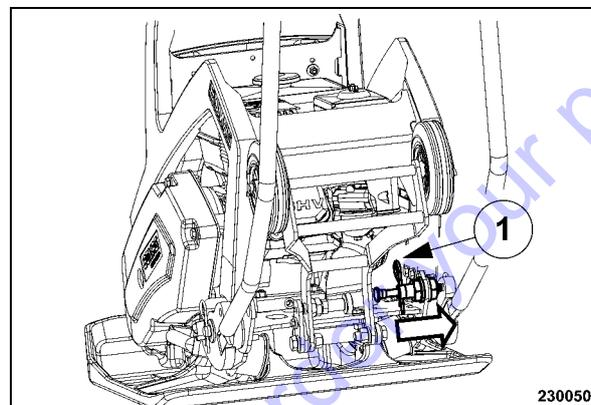

Fig. 34
- Pull out the cotter pin (1) (Fig. 34) and lock the guide handle the locking bolt. Reinsert the cotter pin.